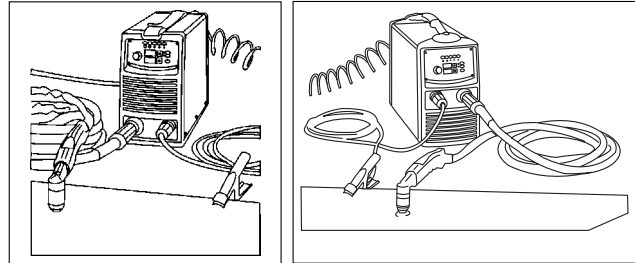

Fig. 4
Securely connect the earth cable connector to the generator as shown in figure 4.
3. Position the earthing clamp onto the piece to be cut, ensuring that it makes a good electric connection (Fig. 4).